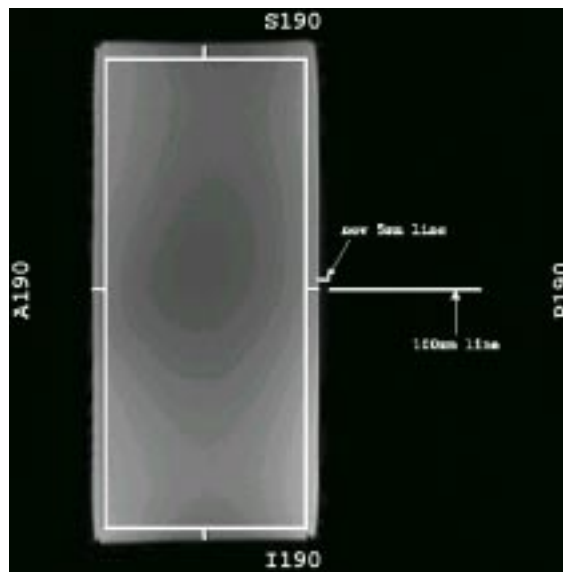

Figure 13: Preparation for noise region of interest.
- Step 5 -- Use the measure distance feature to place a new 5mm line at the posterior edge of the phantom as shown in *Figure 13*. This new line should be slightly inferior or superior to the poster mark made earlier.
- Step 6 -- Create a 100mm line from near the posterior end of the new 5mm line toward the posterior edge of the image as shown in *Figure 13*.